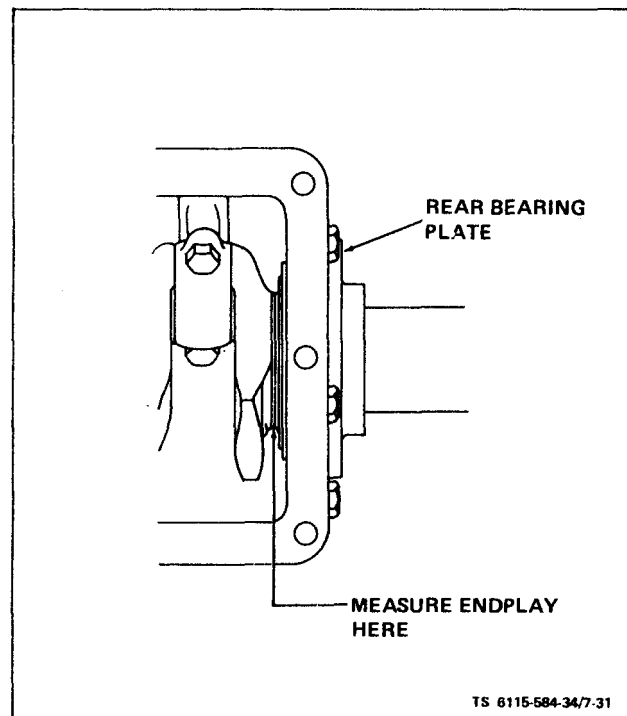

Figure 7-31. Crankshaft End Play Measurement
(4) Place gasket (22) on each side of shim (23).
(5) Before installing bearing plate, tape keyway and sharp edges on crankshaft to protect the oil seal during installation. Mount and secure rear bearing plate (18).
(6) Check crankshaft end play (see figure 7-31). Use enough rear bearing plate shims to provide 0.010